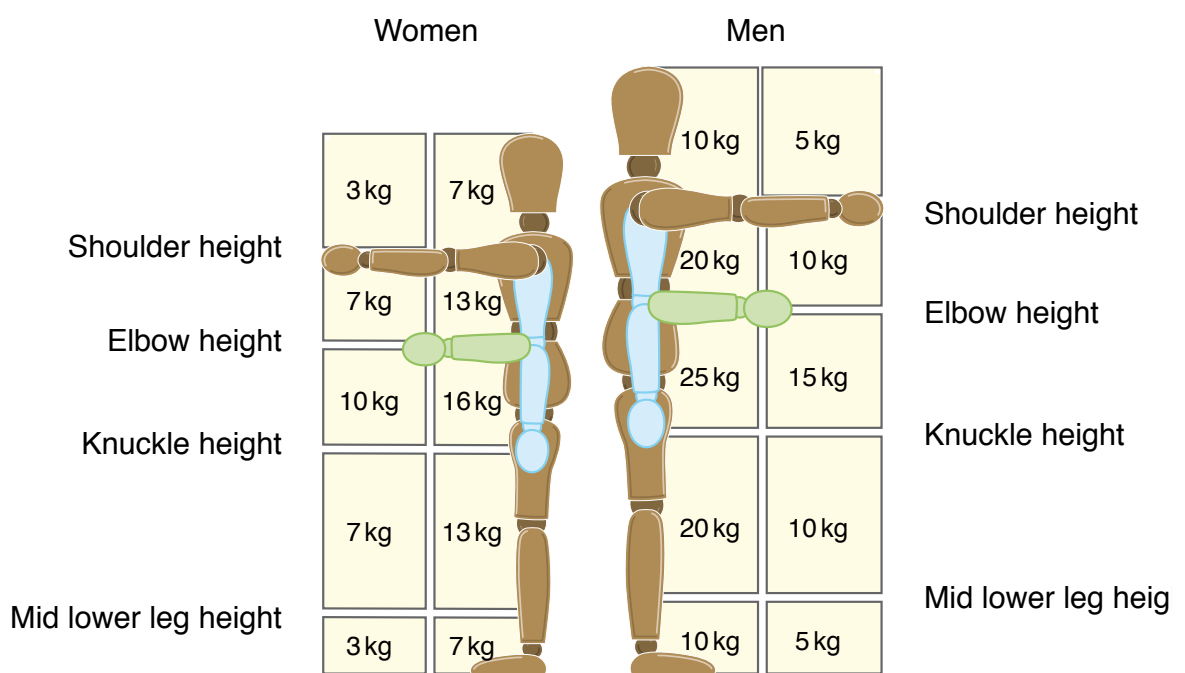

Figure 1 Lifting and lowering
- Use Figure 1 to make a quick and easy assessment. Each box contains a guideline weight for lifting and lowering in that zone. (As you can see, the guideline weights are reduced if handling is done with arms extended, or at high or low levels, as that is where injuries are most likely to happen.)
Using Figure 1 is a first step. If it shows the manual handling is within the guideline figures (bearing in mind the reduced limits for twisting and frequent lifts) you do not need to do any more in most cases. But you will need to make a more detailed assessment if:
- make sure the ladder angle is at 75° – you should use the 1 in 4 rule (ie 1 unit out for every 4 units up) – see Figure 1;